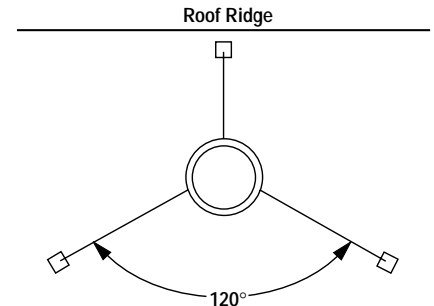

Figure 29
Note: If chimney extends more than 8' above roof surface, guy wires are also recommended. Use three (3) guy wires, attach to locking band assembly, extend and secure to roof in a triangular pattern (*Figure 29*). Guy wires are not supplied by the manufacturer.